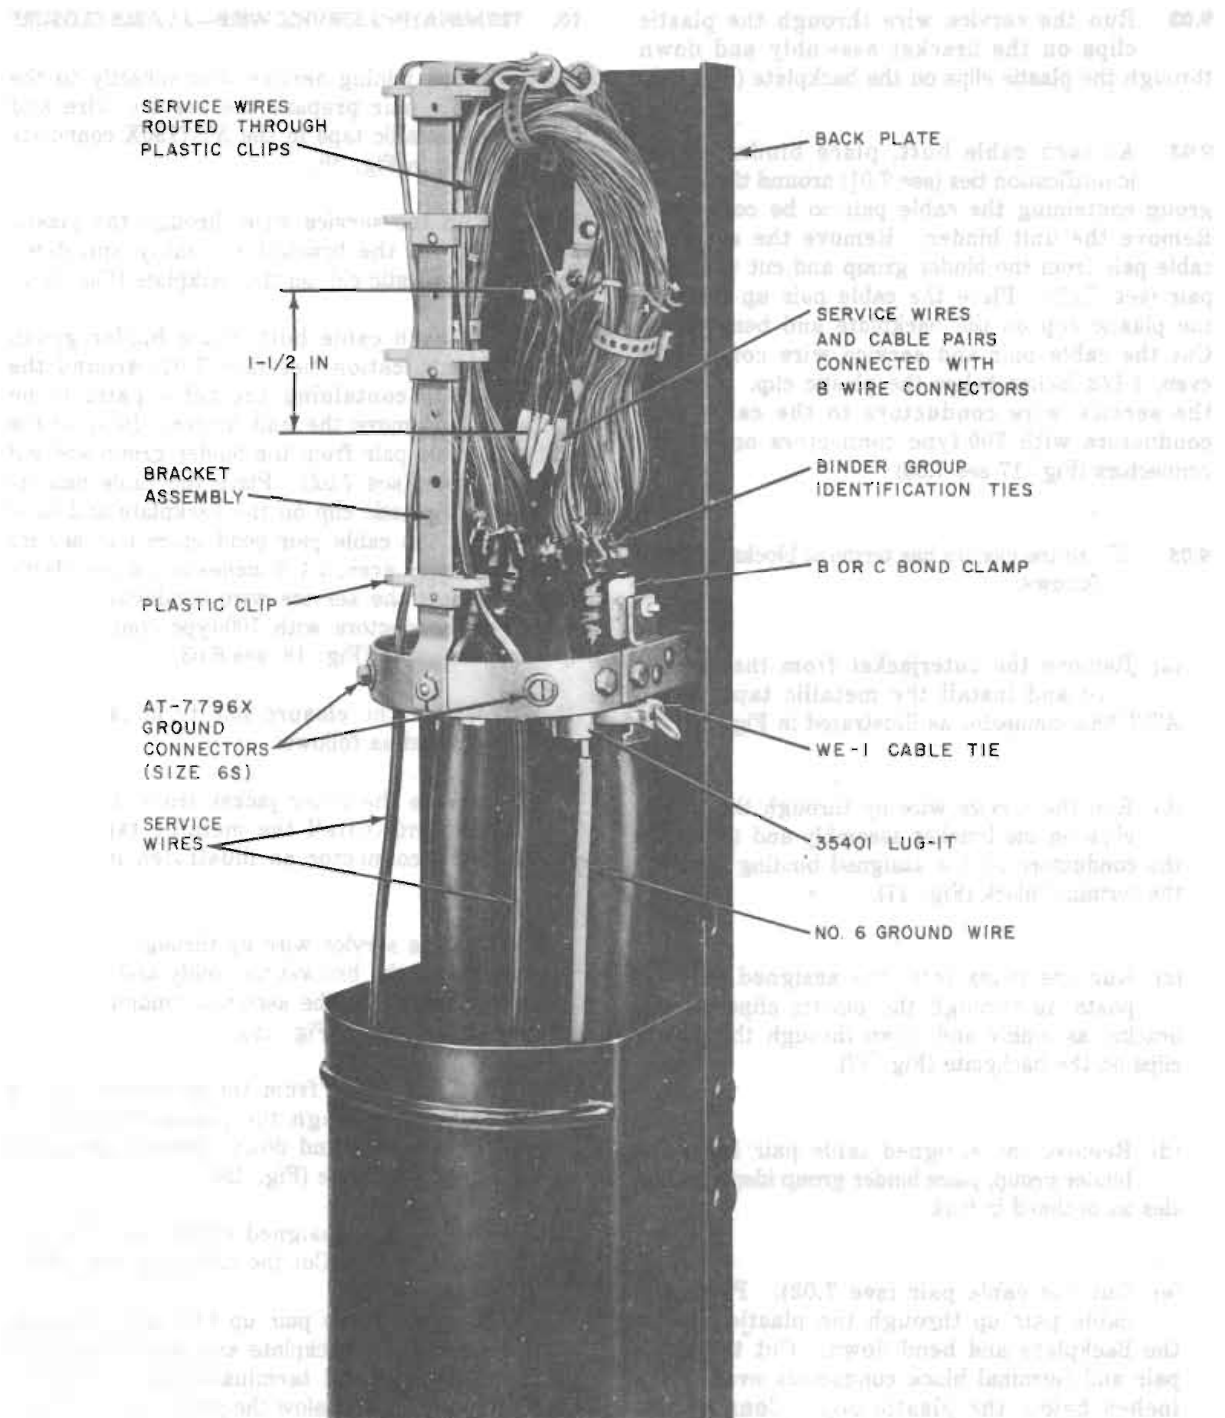

Fig. 16—Service Wire Installed—E Cable Closure (Nonprotected)
9.03 Run the service wire through the plastic clips on the bracket assembly and down through the plastic clips on the backplate (Fig. 16).